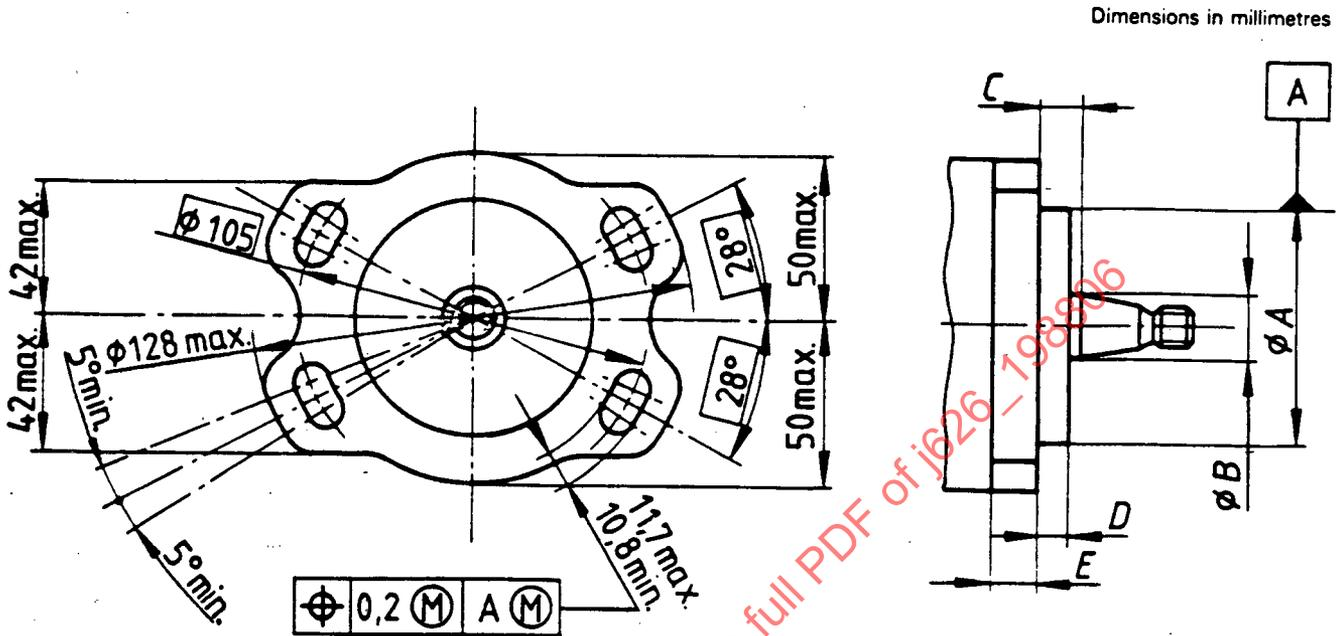

FIGURE 3 - Fuel Injection Pumps - Type 3 End-Mounting Flange
3.2.3 Type 3 Flange: See Fig. 3 and Table 3: